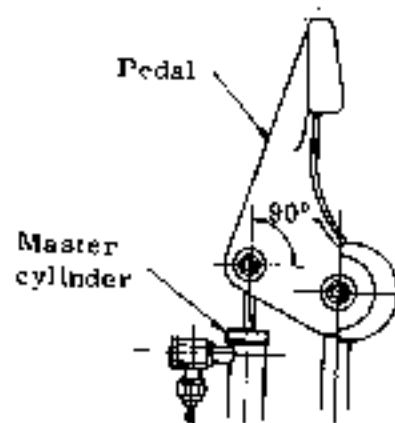

Fig. 5-27 Rigging of pedal
4.5.5 RIGGING OF PEDAL (See Fig. 5-27)